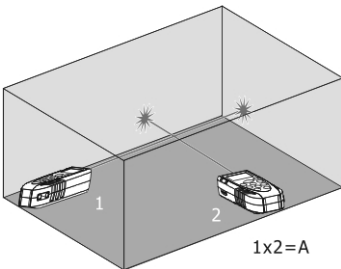

Fig. 7: Example of area measurement
3. Press the key or the side **MEAS** key to perform the first measurement (length) of the surface concerned (see Fig. 7). The corresponding value appears on the first partial display. The symbol "" appears on the display with side "2" flashing
4. Press the key or the side **MEAS** key to perform the second measurement (width) of the surface concerned (see Fig. 7). The corresponding value appears on the second partial display, while the (up-to-date) total value of the area appears on the resulting display